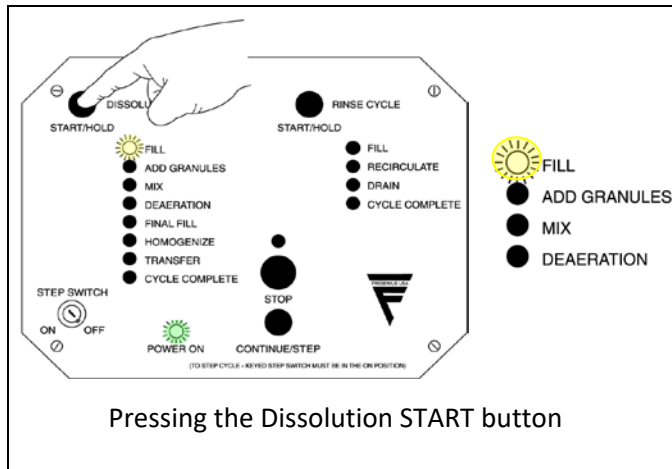

Figure 5
1. Before initiation of *Dissolution Cycle*, ensure the tank is empty, the two (2) propellers are attached to the Mixer Shaft, and the 1 micron filter is installed in the Concentrate Filter Housing (Diagram 2, page 8) by ensuring that there is a filter present. Ensure that the water supplied to the machine is between 20 and 30°C (68 and 86°F) for proper dissolution and mixing. Ensure you have the appropriate personal protective equipment donned. If the filter is not present in the filter housing, refer to Section 8.4.1, Filter Removal and Replacement.
2. Ensure the power switch is ON and water supply valve is in the OPEN position, and then place the GranuFlo I Dissolution Unit in Dissolution Cycle FILL Operation by pressing the Dissolution side START/HOLD button (Figure 5).